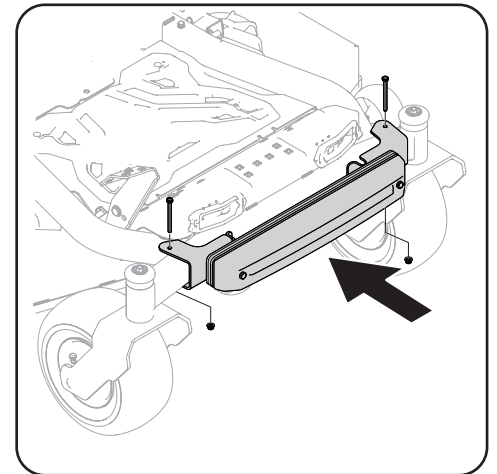

Figure 4-33
- Visually center the weight bar assembly on the tractor and using two 5/16" Hex head capscrews (710-3056) and two nuts (712-04063) secure the counter weight assembly to the tractor as shown in Figure 4-33.